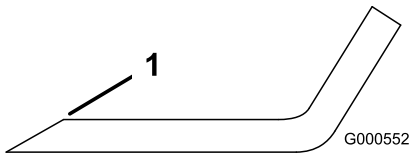

Figure 44
**Note:** If the blade is not balanced, file some metal off the end of the sail area only (Figure 44).